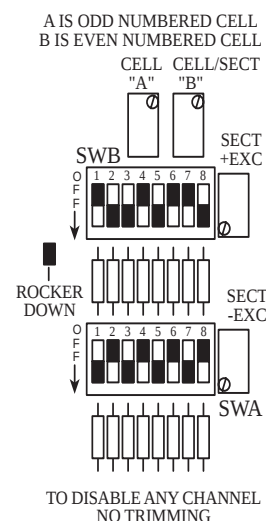

Figure 4
1. Use this procedure to setup a new system. Hook up all the cells in parallel with all trimming disabled. Set all switches to the disable trim setting as shown in Figure 4.
Remember to disable any unused channels as shown in Figure 4 on page 3.
If you think the board may be damaged, reset the DIP switches to disable all trimming as shown in Figure 4 on page 3, being certain to first mark down how the switches were set. Disconnect the ground wire from the JB1010. This effectively hooks all cells in parallel, disables all trim and isolation, and removes any leakage source to ground. If the system problems still persists, carefully check the load cell cable and load cells for damage.